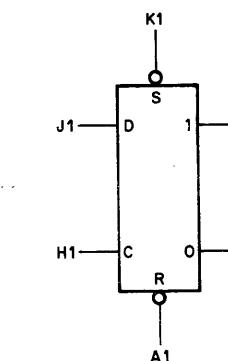
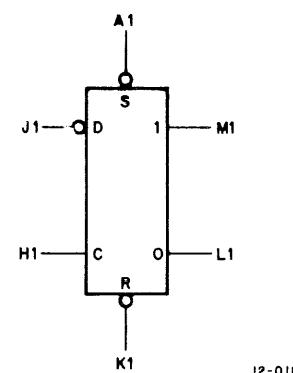

Figure 6 Flip-Flop
Figure 7 "Redefined" Flip-Flop
Figure 6 illustrates a flip-flop. A flip-flop has four inputs: SET (S), RESET (R), DATA (D), and CLOCK (C). Each flip-flop has two outputs, 1 and 0. The flip-flop is bistable; it remains in one of its two logic states (1 or 0) until an input condition causes it to change.
Figure 7 illustrates a "redefined" flip-flop. The redefined flip-flop is physically identical to the flip-flop shown in Figure 6. The difference, however, is the manner in which the inputs: S (SET), R (RESET), and D (DATA) and the outputs: 1 and 0 are logically defined. In Figure 7, note that the pin numbering of the S and R inputs and the 1 and 0 outputs are opposite those shown in Figure 6; in addition, the D input is shown with a small circle to indicate that a low signal enables the change of state, thereby identifying the flip-flop as redefined.